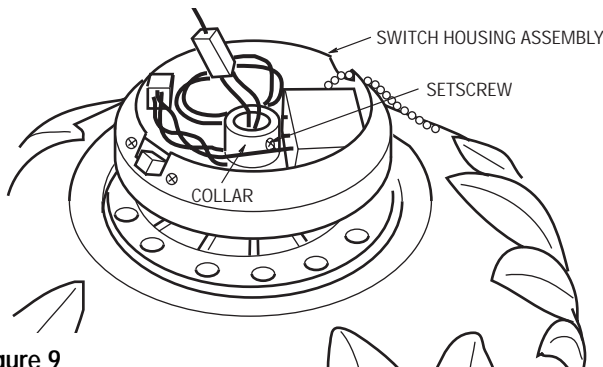

Figure 9
- 13. Using the 5/32" hex wrench (supplied), loosen the setscrew in the collar and unscrew (counterclockwise) the switch housing assembly from the motor shaft (Figure 9). Do NOT remove the flat washer from the motor shaft.